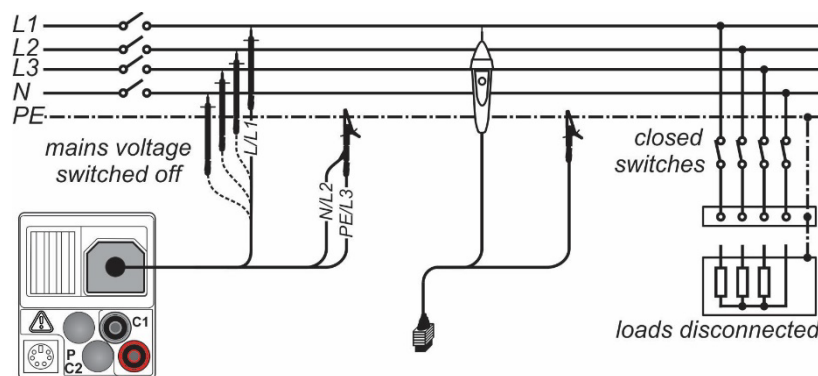

Figure 5.6: Connection of the three-wire test cable and the optional "Commander" test probe
- ❑ Connect the test cables to the test object (see figure 5.6).